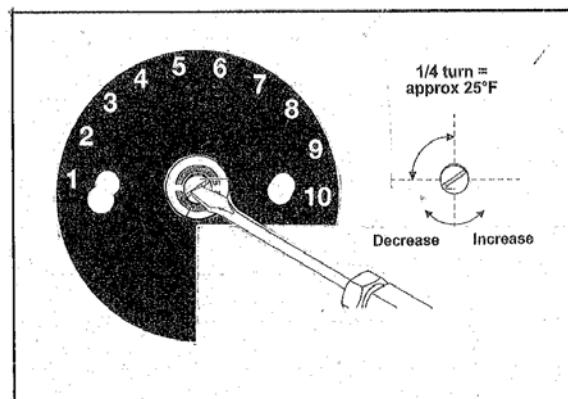

Fig. 16
3. Using a small screw driver, turn the screw in the center of the thermostat stem: **"clockwise to Decrease" temperature or "counter-clockwise to Increase" temperature.** (Fig. 16)